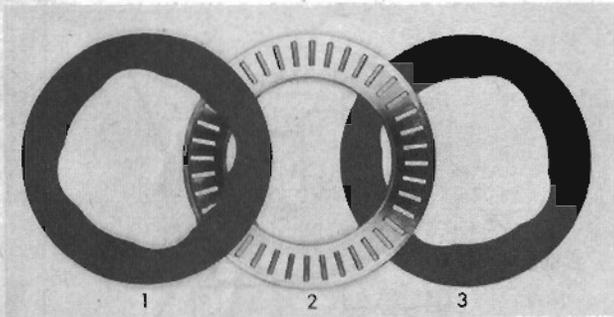

FIG. 311
Install a high range clutch thrust plate (1, Fig. 311), the caged needle bearings (2), and the second thrust plate (3) on the front pump leader. Install the two piston ring type oil seals on the high range clutch journal of the pump body (see Fig. 312). Position the pump on the bellhousing dowels and install the retaining cap screws and lock washers. Tighten the cap screws to 15-18 foot pounds (20,7 to 25 kg-m).